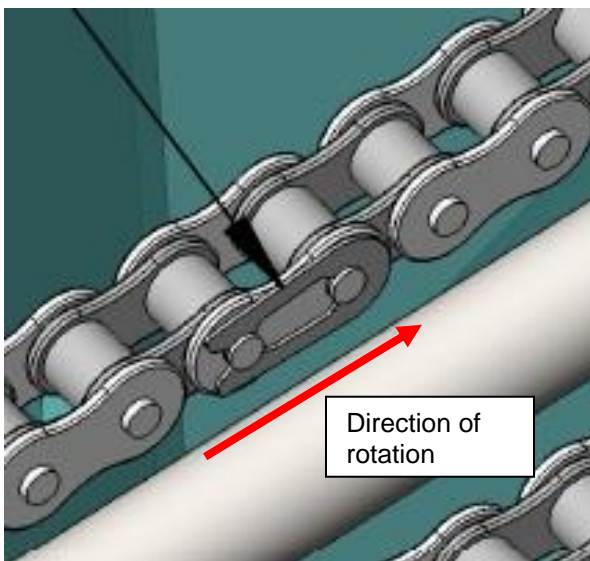

**Figure 5**
- Install the 18-tooth sprocket and hub on the idler assembly. The sprocket needs to be located 0.46" away from the end of the bearing as shown in figure 5.
- Install it approximately 0.67" away from the bearing collar as shown in figure 5
- Adjust the spacing of the sprockets as shown in Figure 5.